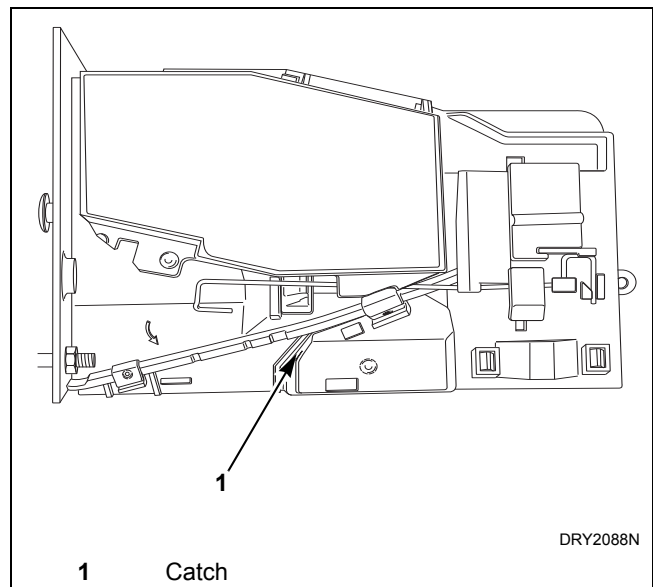

Figure 48
- a. Move spring downward until cover catch is free. Refer to Figure 48.